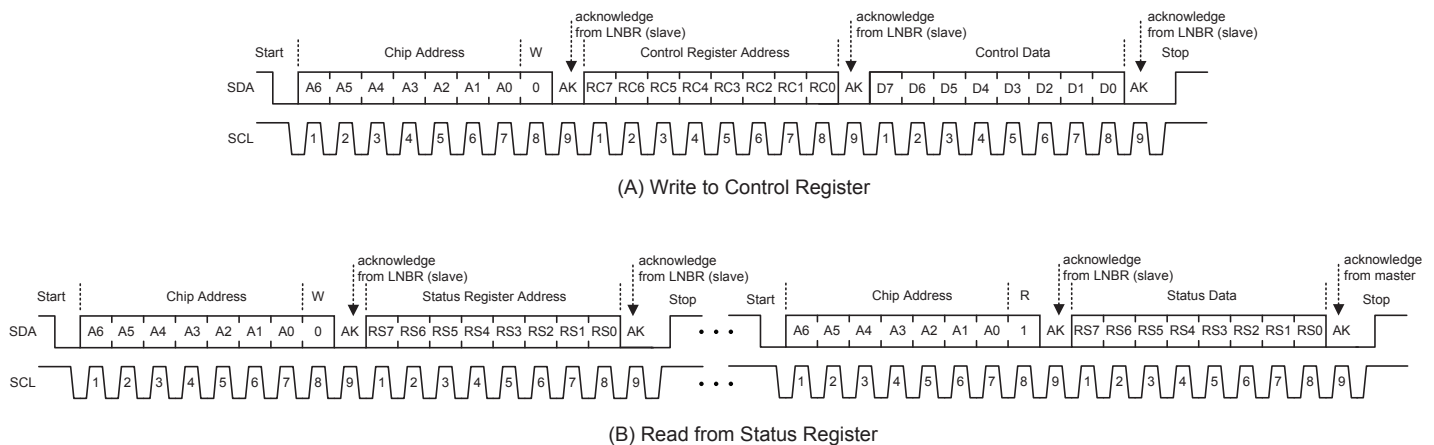

Figure 8. I2C™ Interface Read and Write Sequences. (A) for the I2C™ Write cycle and (B) for the I2C™ Read cycle
**Acknowledge (AK) Bit.** The Acknowledge (AK) bit indicates a good transmission and can be used two ways. First, if the slave has successfully received eight bits of either an address or control data, it will pull the SDA line low (AK=0) for the ninth SCL pulse to signal good transmission to the master. Second, if the master has successfully received eight bits of status data from the A8297, it will pull the SDA line low for the ninth SCL pulse to signal good transmission to the slave. The receiver (either the master or the slave) should set the AK bit high (AK=1 or NAK) for the ninth SCL pulse if eight bits of data are not received successfully.
**AK Bit During a Write Sequence.** When the master sends control data (writes) to the A8297 there are three instances where AK bits are toggled by the A8297. First, the A8297 uses the AK bit to indicate reception of a valid seven-bit chip address plus a read/write bit (R/W=0 for write). Second, the A8297 uses the AK bit to indicate reception of a valid eight-bit Control register address. Third, the A8297 uses the AK bit to indicate reception of eight bits of control data. This protocol is shown in figure 8(A).
**AK Bit During a Read Sequence.** When the master reads status data from the A8297 there are four instances where AK bits are sent—three sent by the A8297 and one sent by the master. First, the A8297 uses the AK bit to indicate reception of a valid seven-bit chip address plus a read/write bit (R/W=0 for write). Second, the A8297 uses the AK bit to indicate reception of a valid eight-bit status register address. Third, the A8297 uses the AK bit to indicate reception of a valid seven-bit chip address plus a read/write bit (R/W=1 for read). Finally, the master uses the AK bit to indicate receiving eight bits of status data from the A8297. This protocol is shown in figure 8(B).
**I2C™ Start and Stop Conditions.** The I2C™ Start condition is defined by a negative edge on the SDA line while SCL is high. Conversely, the Stop condition is defined by a positive edge on the SDA line while SCL is high. The Start and Stop conditions are shown in figure 8. It is possible for the Start or Stop condition to occur at any time during a data transfer. If either a Start or
**I2C™ Write Cycle Description.** Writing to the A8297 Control register requires transmission of a total of 27 bits—three 8-bit bytes of data plus an Acknowledge bit after each byte. Writing to the A8297 Control register is shown in figure 8(A). Writing to the A8297 Control register requires a chip address with R/W=0, a Control register address, and the control data, as follows:
ter is shown in figure 8(B).